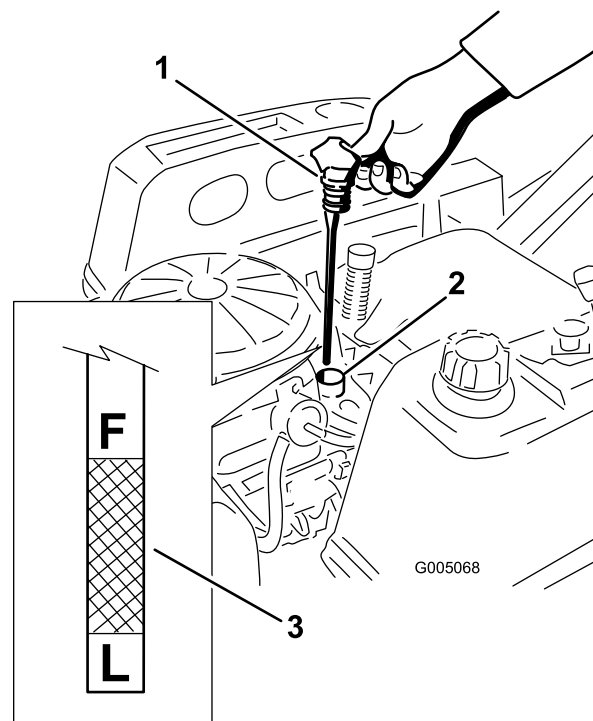

Figure 32
5. Remove the dipstick and check the oil level. (Figure 32).
4. Pull and remove the oil fill cap/dipstick; wipe oil off. Reinsert the dipstick and push firmly into place (Figure 32).
7. Turn the drain valve 1/4 counter clockwise to open and allow the oil to drain (Figure 34). Remove the oil fill cap/dipstick (Figure 32).
14. Slowly pour approximately 80% of the specified oil into the filler tube (Figure 32).
15. Install the oil fill cap/dipstick and push firmly into place (Figure 32).
16. Check the oil level (Figure 32); refer to Checking the Oil Level.
18. Install the oil fill cap/dipstick and push firmly into place (Figure 32).